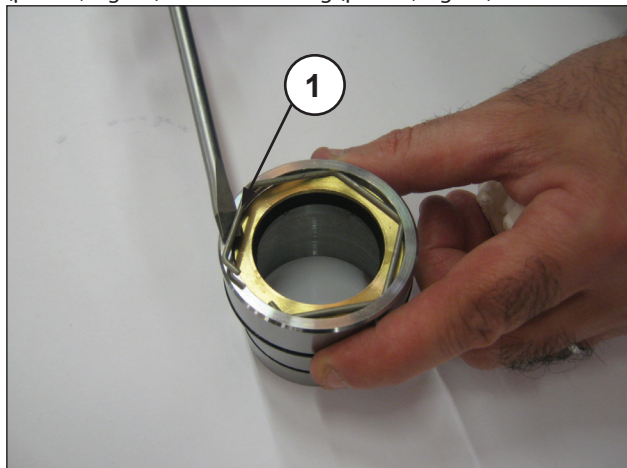
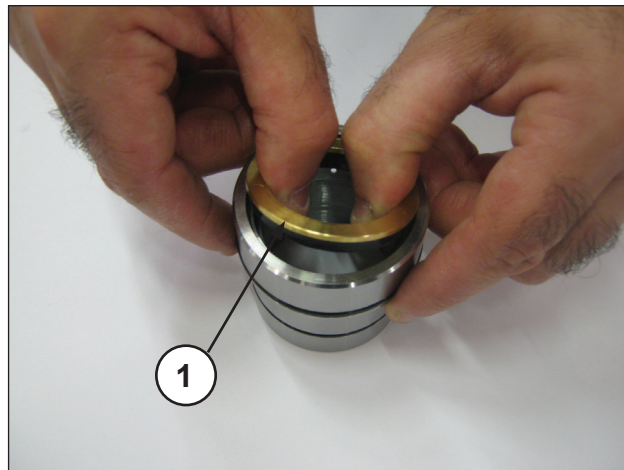

Fig. 50
Fig. 51
To remove the low pressure seal, remove the retaining ring (pos. ①, Fig. 50) and the seal ring (pos. ①, Fig. 51).